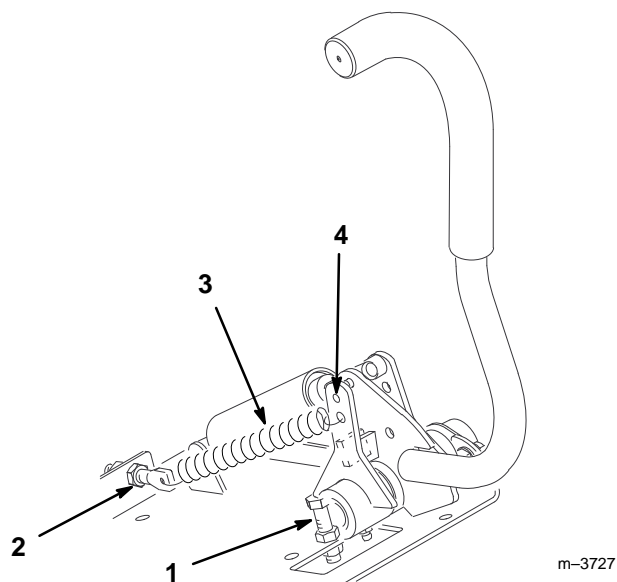

Figure 46
1. Loosen nuts on stop bolt below control assembly (Fig. 46).
1. To adjust tension loosen nuts on the eye bolts holding the springs to mounting plate (Fig. 46).
2. To reduce tension thread nuts off eye bolts (Fig. 46). Tighten nuts to hold new set position.
3. To increase tension thread nuts onto eye bolts (Fig. 46). Tighten nuts to hold new set position.
4. If greater tension is desired, the front hook of the springs can be moved to the outer hole in the control assemblies (Fig. 46).